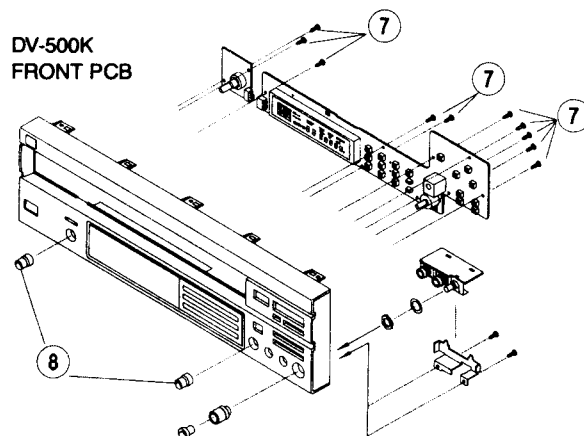

Figure 5.
- (1) Remove Cabinet Top.
- (2) Remove Tray.
- (3) Remove PANEL FRONT.
- (4) Release 10 screws ⑦ from FRONT PCB. (Figure 5)
- (5) Remove KNOB-VOLUME.